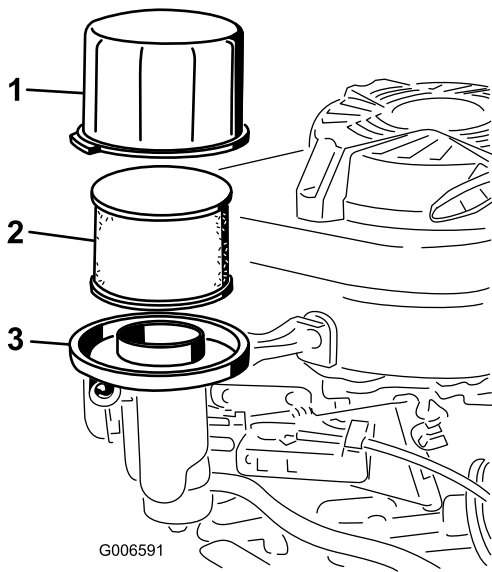

Figure 24
3. Remove the cover and clean it thoroughly (Figure 24).
4. Remove the foam pre-filter from the paper filter (Figure 24), and replace the paper filter if it is excessively dirty.